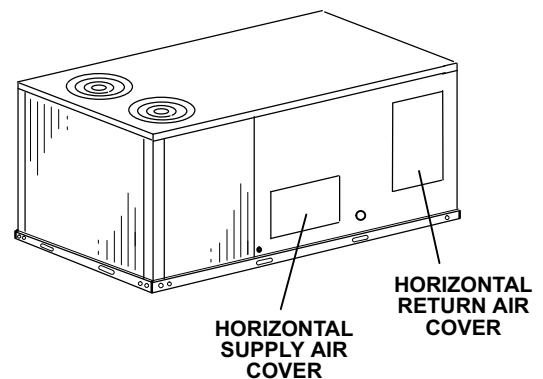

FIGURE 1
- 2- Remove rear unit panels. See figure 1.
- 9- When an outdoor air accessory is installed, secure the return air duct on the end of the unit and replace the rear horizontal return air cover. See figure 1.